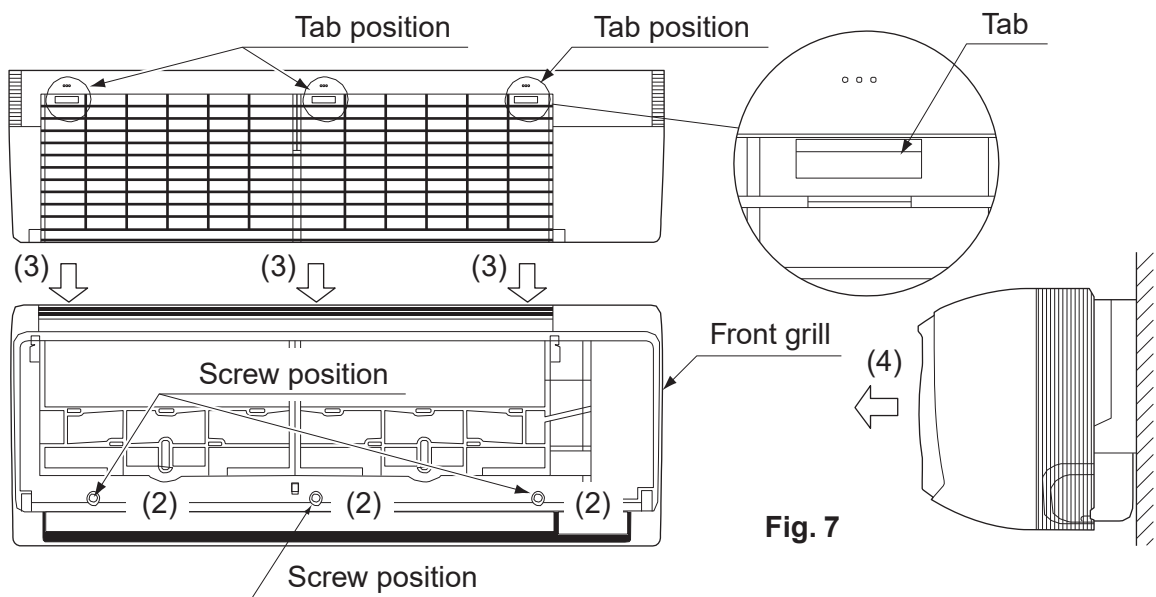
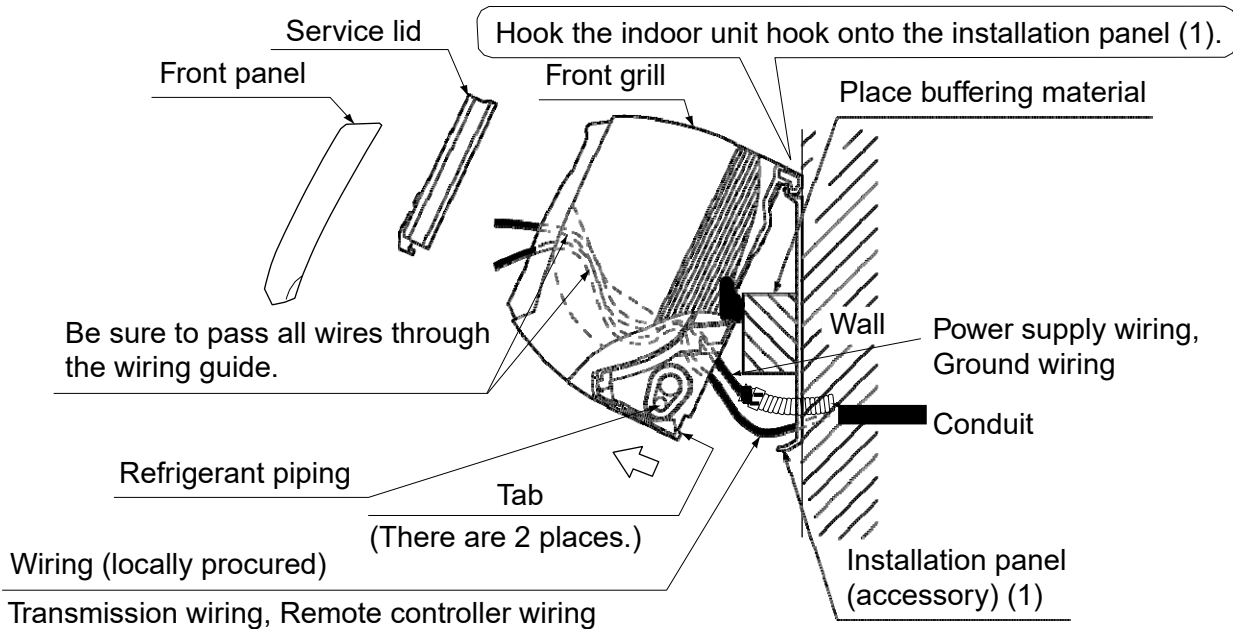

Fig. 7
Fig. 9
- Remove the front grill. (Refer to Fig. 7)
(6) Hook the indoor unit onto the installation panel. (Refer to Fig. 9)
(9) Push on both bottom edges of the indoor unit using both hands and hook the tab on the back of the indoor unit onto the installation panel (1). (Refer to Fig. 9)
- At this time remove the buffering material placed in step (6).
④ When screwing in the indoor unit